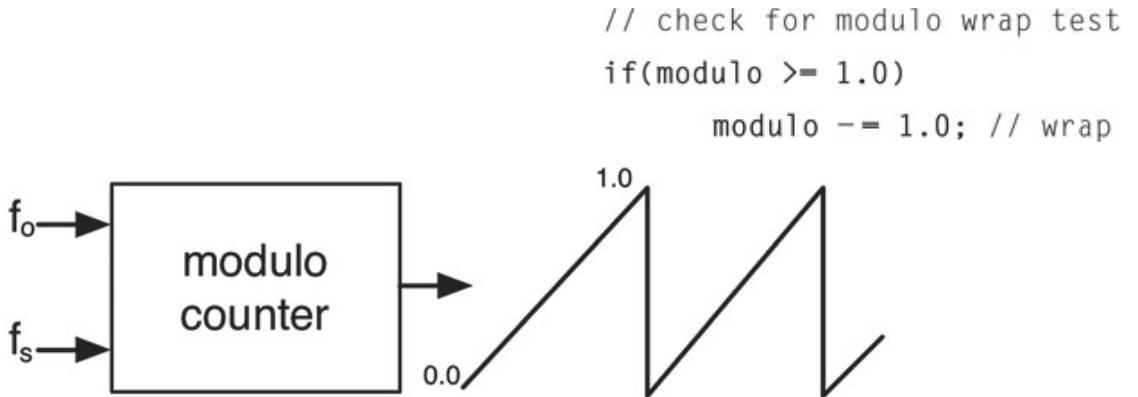

Figure 5.1: The modulo counter produces a ramp or sawtooth waveform.
*Note: some categorize ramp and sawtooth as being two different waveforms where the ramp waveform has a perfectly linear ramp edge as shown in Figure 5.1 while the sawtooth edge is curved outward as in Figure 5.19 \(a\) and \(d\). In this book, sawtooth refers to the same waveform as ramp, both having a linear edge.
The trivial oscillators are simple to design and calculate. We will use them again inside of pitched oscillators by modifying their discontinuities, so it is important to examine the modulo counter concept. Every oscillator in the chapter will use the modulo counter as its inner clock. A modulo counter is a counter that starts at zero, counts upward to a specified value, then rolls over and back to zero where it begins counting up again. Our modulo counters are unipolar and count from zero up to 1.0. Once the counter hits or exceeds 1.0, it rolls over back to zero, plus the amount it exceeds the 1.0 value. The counter is reset to zero when the oscillator is triggered and counts upwards with a constant increment called inc. The inc value represents the current phase of the oscillator and is also commonly called the phase increment. The inc value determines the frequency of the oscillator. The output of the modulo counter is a ramp or sawtooth waveform. Therefore, it directly implements the trivial sawtooth oscillator. The modulo counter is shown in Figure 5.1.